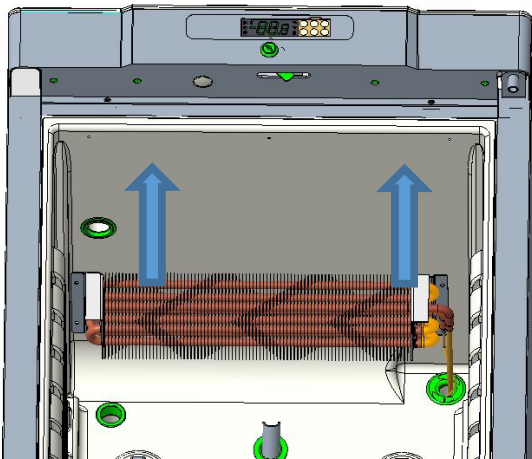

Fig. 17
4. Remove coil by sliding on front side shown in figure 17